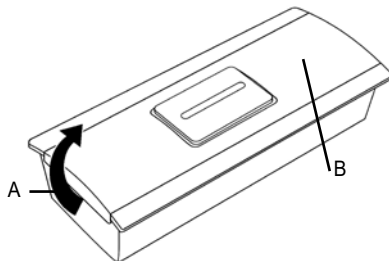

Figure 1: Call-pushbutton
- Remove the transparent front by lifting it off its clip on one side of the housing (fig. 1 A). If necessary, use a small flatsided screwdriver to assist.
- c) You can now open the small screw (fig. 1 B) using a small Phillips screwdriver and remove the front of the call-push-button behind which the PCB with the battery is located.
- g) Carefully set the small screw (fig. 1 B) with a small Phillips screwdriver.